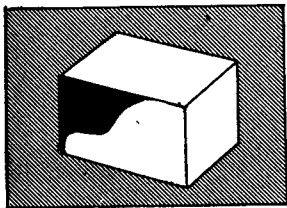

FIG. 496
1. Study the blueprint to visualize the contour to be formed. Figure 496 shows a typical job to be machined from a solid piece.